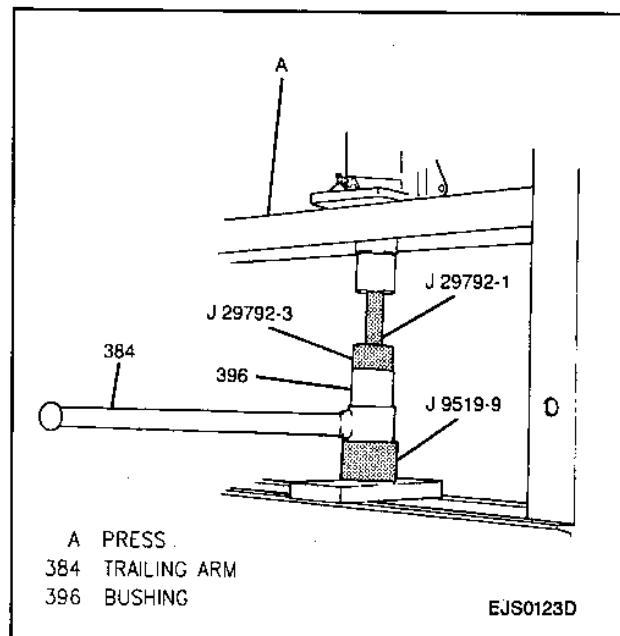

Figure 12—Installing Trailing Arm Bushing
2. New bushing into trailing arm using press (Figure 12).